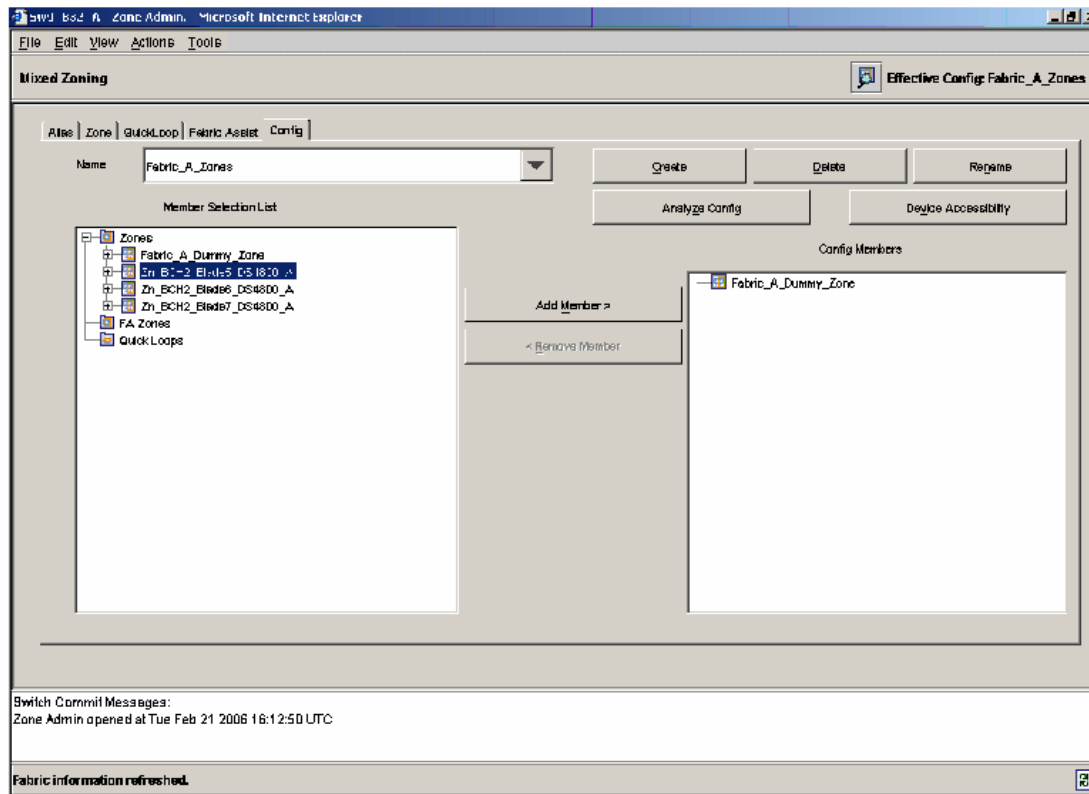

Figure 5-61 Zone config window
1. Select the **Config** tab and ensure that Fabric_A_Zones is in the Name box. Then expand the Zones tree, as shown in Figure 5-61.